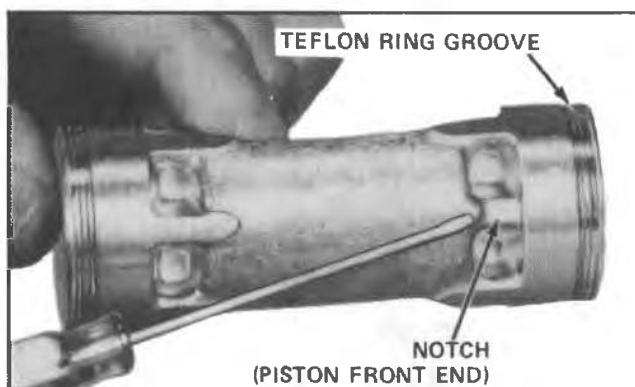
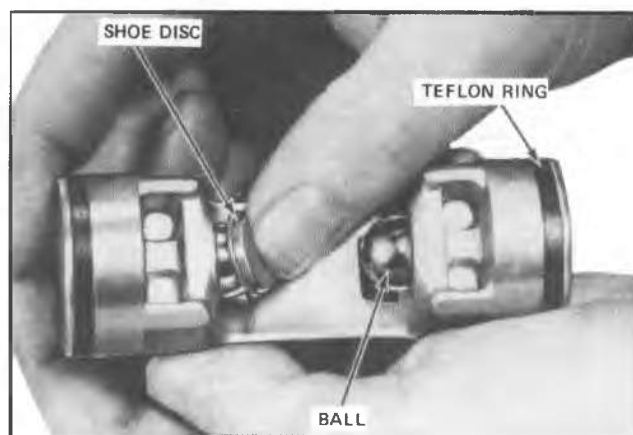

Fig. 32--Notch Identifying Front End of A-6 Piston
Fig. 37--Installing FRONT Shoe Disc
8. Place piston in No. 1 compartment of Parts Tray J-9402, with notch in casting web at front end of piston (Fig. 32) into the dimpled groove of Parts Tray compartment.
7. Lubricate cavity of a ZERO shoe disc with 525 viscosity refrigerant oil and place shoe disc over ball in **front end** of piston (Fig. 37). **Front end of piston has an identifying notch in casting web** (Fig. 32).